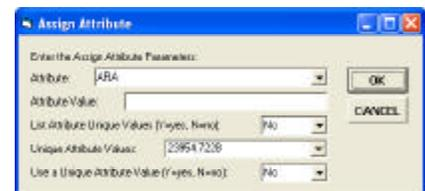

Figure 19
Under this mode of operation, the user has entered Yes in response to the third data line item. As such, the command will generate a list of the unique attribute values currently assigned for the attribute identified in the first data line item. A new multi-input dialog box, similar to that shown in Figure 19, will appear.
- (b) generate a list of unique attribute values for the attribute specified in the first data line item (Yes in the third data line item, the response in the fifth data line item is ignored). At which point a new multi-input dialog box similar to Figure 19 will appear, or